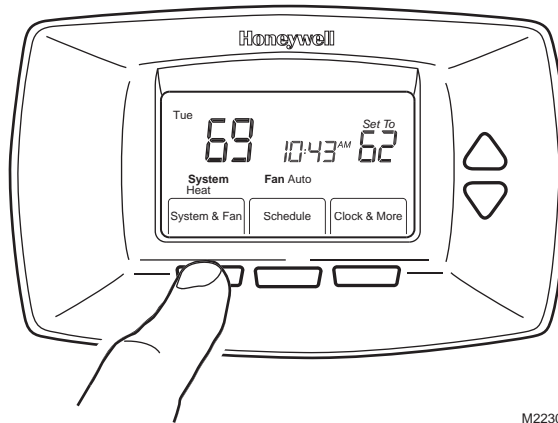

Fig. 32. Entering Installer Setup.
2. Press and hold the two keys on either side of the center key for approximately five seconds. (See Fig. 32.)